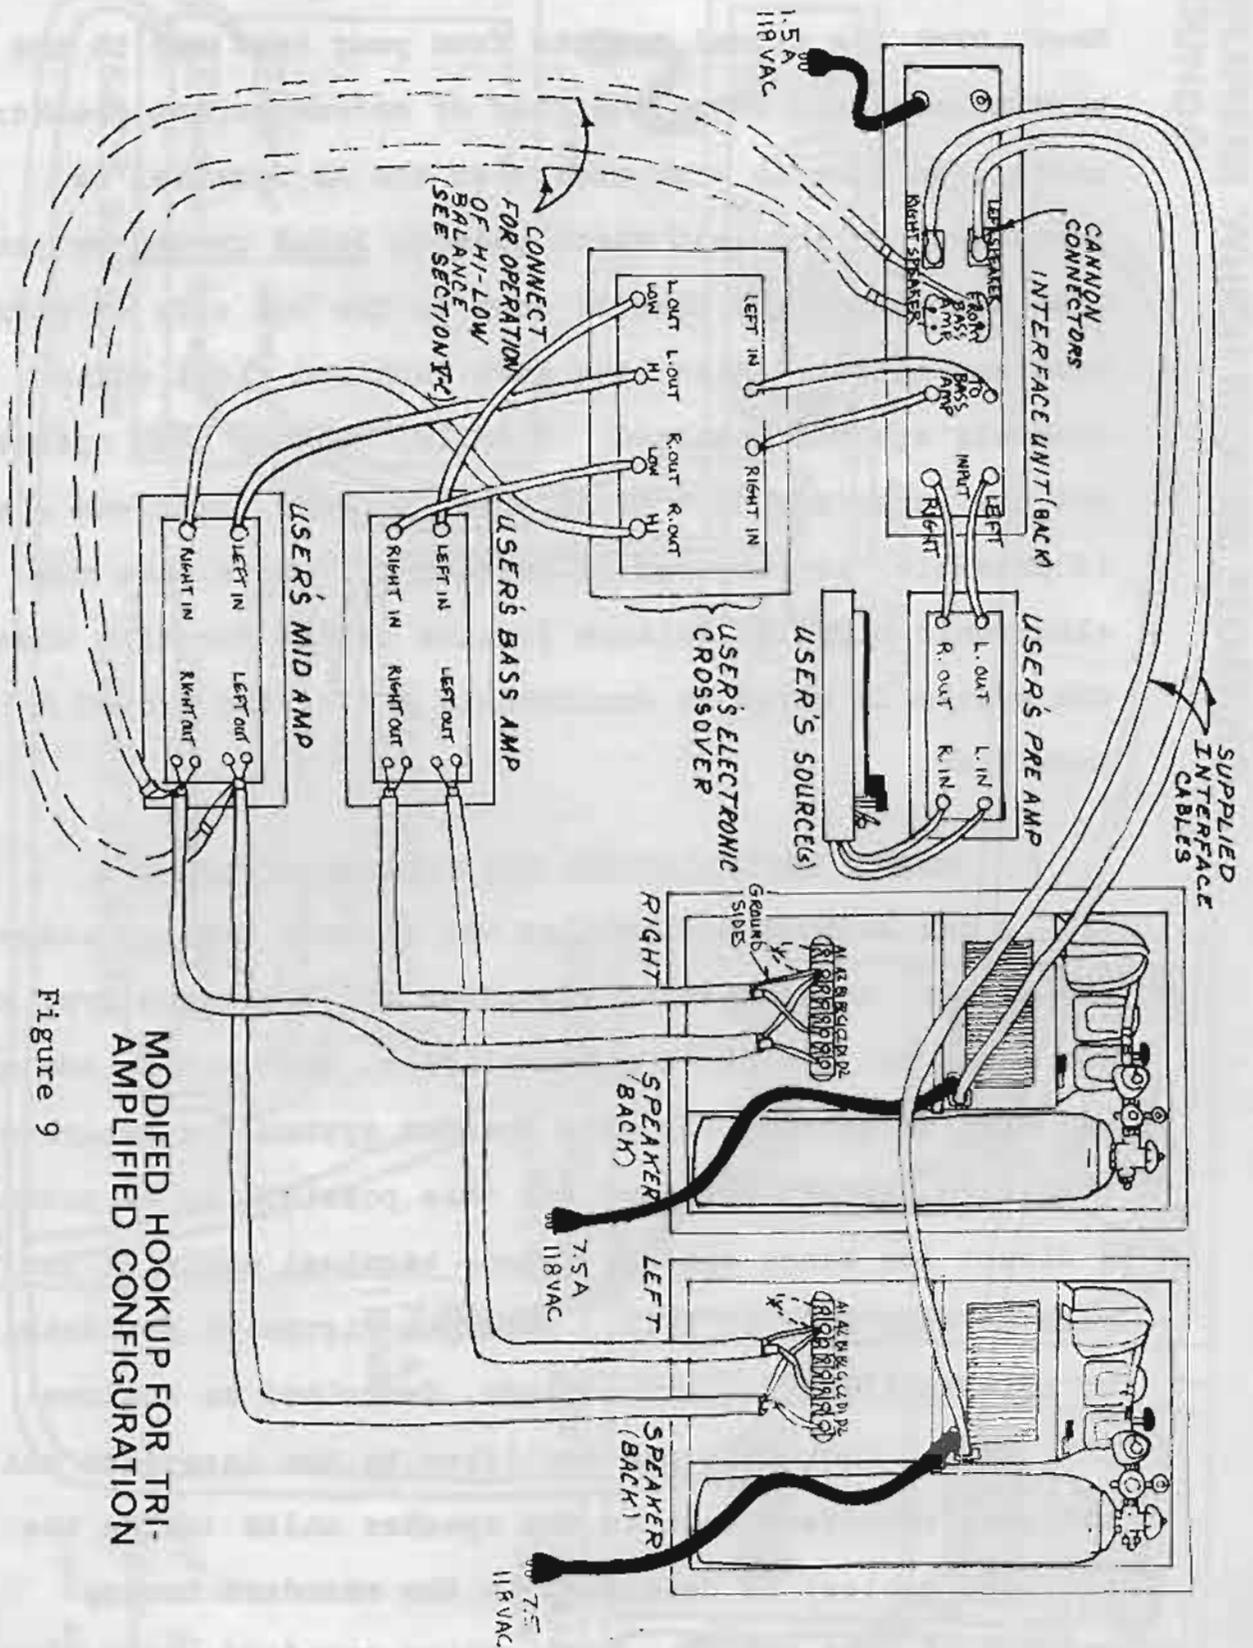

Figure 9
A few serious audiophiles who already own two stereo amplifiers, an electronic crossover which crosses over at (or close to) 100 Hz, a pre-amplifier, and audio cables, may wish to tri-amplify this speaker system for ultimate results. We have arranged for this possibility by providing a direct low range speaker access terminal strip at the rear of each speaker unit. Refer to Figure 9 for details of tri-amplification connections, described as follows:
Likewise, connect the right bass amp output to terminals A2 and C2 on the right speaker. If your amplifiers have multiple taps, use 8 ohms. Also note that the polarities indicated on the terminal strips in Figure 9 assume neither amplifier shifts the signal phase. That is, if there is no amplifier phase shift then the grounded sides of your amplifier goes to the A2 terminals in all cases.
- b) the acoustical environment is quite extraordinary. If the **situation is such**, extra drivers may be accomodated by accessing them directly from the output of the users mid and bass amp shown in Figure 9, in lieu of making the connections to the terminal strips, as shown. Alternately, the terminal
strips may be connected as shown in Figure 9 in addition to hooking up external drivers, if both internal drivers are desired simultaneously. In the latter case, amplifier impedance selection should account for the use of multiple drivers (the impedance of low and mid-range internal drivers is 8 ohms).